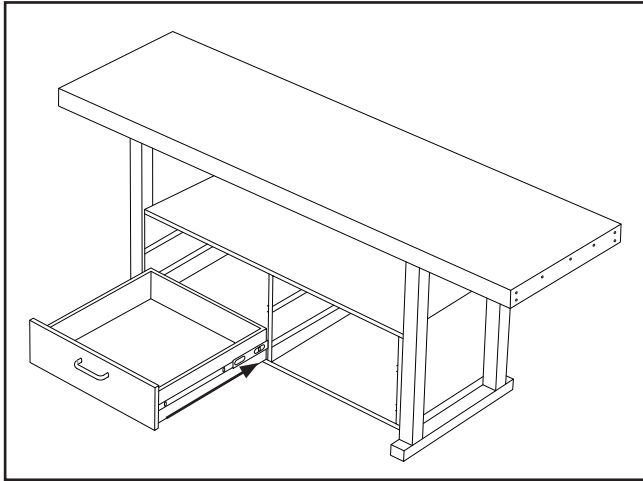

Figure 11. Installing drawers.
12. Align drawer slides with slides mounted inside cabinet and push drawers into place (see **Figure 11**).